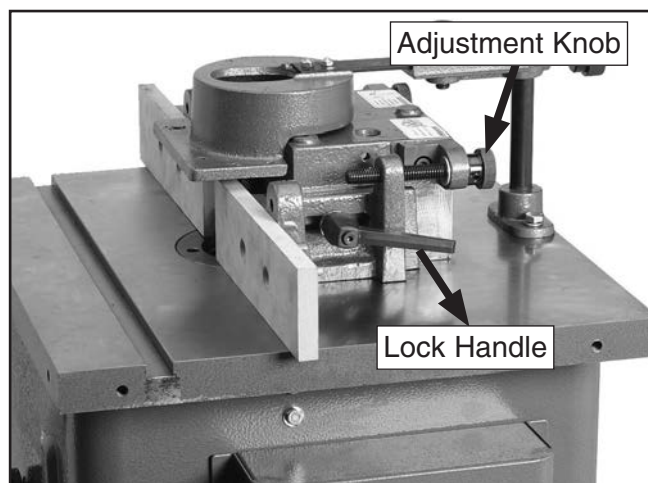

Figure 42. Fence adjustments.
1. Loosen the locking handles that hold the fences in place (see **Figure 42**).